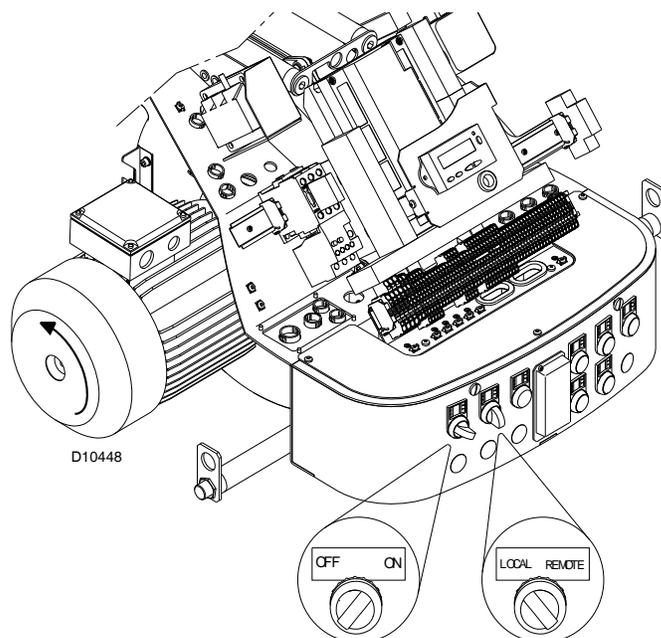

Fig. 32
Close the thermostats/pressure switches, set the parameters on the RWF 40 regulator. Please refer to the specific manual for this operation. Turn the switch of Fig. 32 to position "ON" and turn the switch of Fig. 32 to position "LOCAL".
Make sure that the lamps or testers connected to the solenoids, or indicator lights on the solenoids themselves, show that no voltage is present. If voltage is present, stop the burner **immediately** and check the electrical wiring. When the burner starts, check the direction of the motor rotation, as indicated in Fig. 32.
- place the switch of Fig. 32 in position "0" and wait for the control box to carry out the switch-off phase;